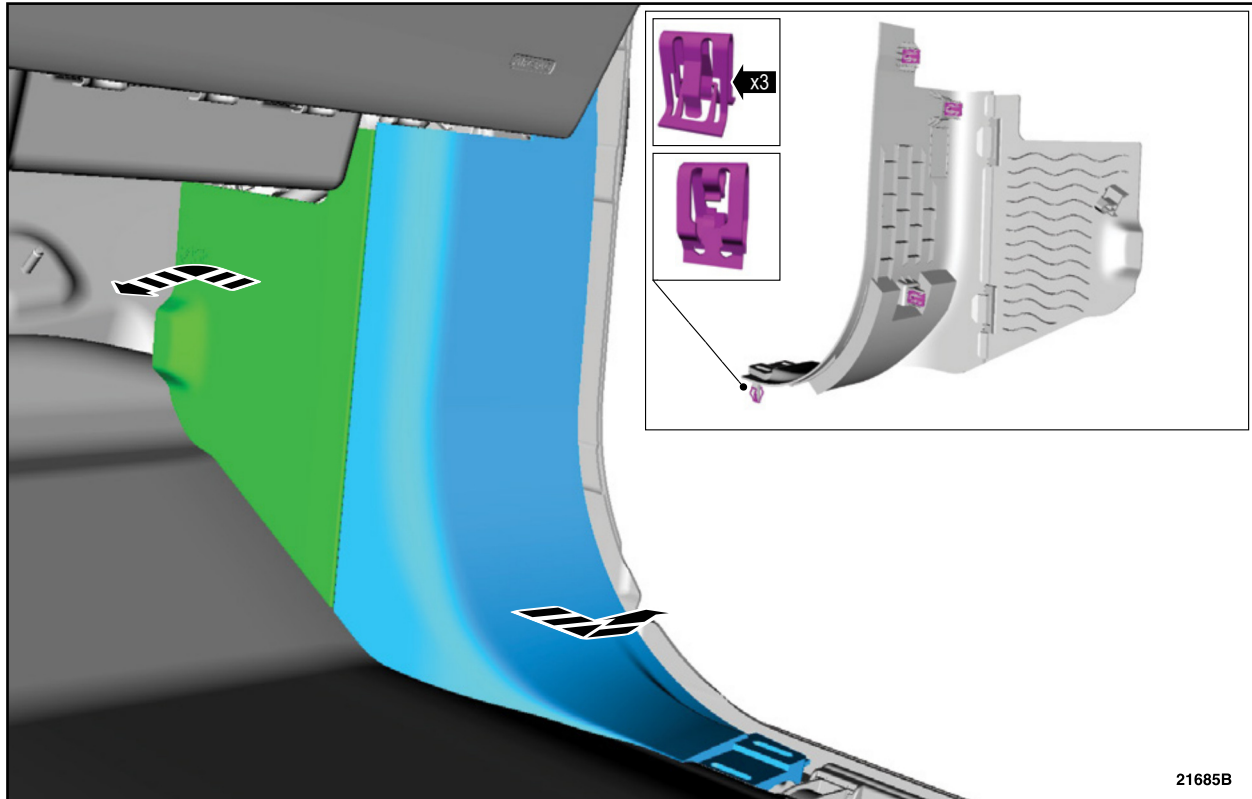

FIGURE 2
5. Remove the Right Hand (RH) Front Scuff Plate Trim Panel. Please follow the WSM procedures in Section 501-05.
6. Release the clips and remove the RH lower cowl trim panel. See Figure 2.